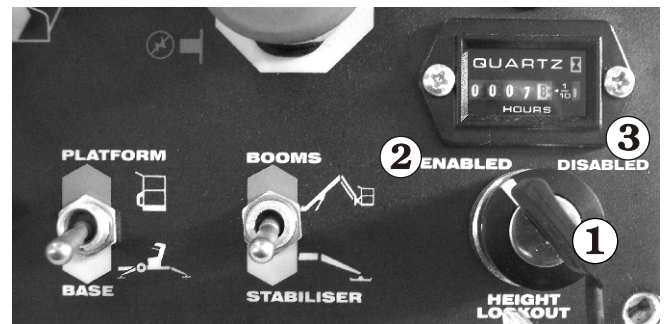
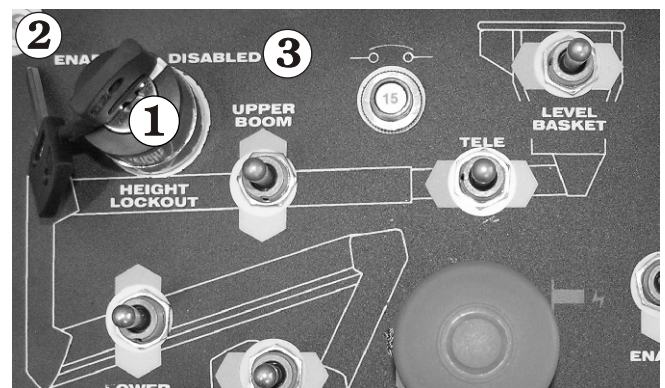

Figure 2 - Key Switch, Original Layout
Figure 3 - Key Switch, Later Layout
An altered control box layout was introduced in late 2009. These altered control boxes will be phased in gradually. Consequently some machines will have the lockout switch located in the lower right of the control box (Figure 2) while others will have the switch located in the upper left of the control box (Figure 3).
The key switch ① allows the unit to operate normally so the platform floor height is 12.8m (15m working height) when the **DISABLED** position ③ on the key switch is selected (see Figure 2 / Figure 3).
When the key switch is placed in the **ENABLED** position ② the unit is restricted to a platform floor height of 10.9m (see Figure 2 / Figure 3). The key can only be removed in the disabled position thus effectively 'locking' the machine into the restricted mode.